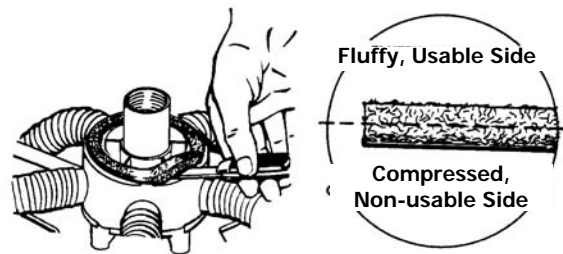

Figure 23. Carefully Pry Seal Up and Lift Out
5. Change the felt seal (see Figure 23). This is recommended after every 10 hours of use. (For step-by-step instructions on removing the cleaning head and seal, refer to the Repair Guide section of this manual, starting on page 27.) Always keep a spare felt seal soaking in 30 weight oil.